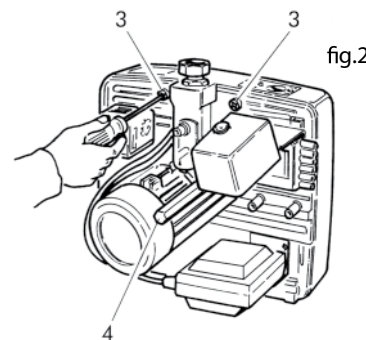

fig.2
- aflojar las vides 3 e a dobradiça central 4 (fig.2)